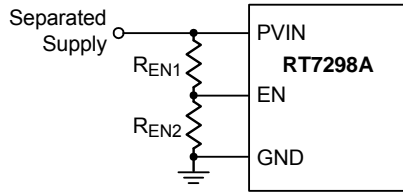
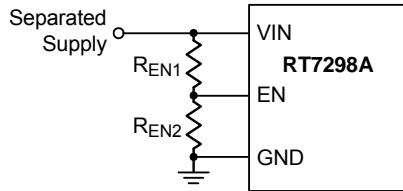
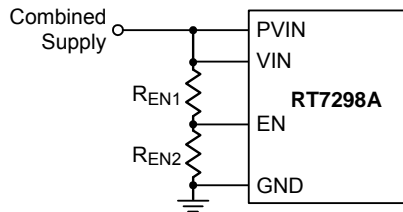

Figure 4. Resistor Divider for PVIN UVLO Setting
Figure 5. Resistor Divider for VIN UVLO Setting,
Figure 6. Resistor Divider for PVIN and VIN UVLO
The EN pin can also be applied to adjust its Under-Voltage Lockout (UVLO) threshold with two external resistors divider from the both input VIN and PVIN pins used together or separately, and the application structures can refer to Figure 4, Figure 5, and Figure 6.
Under above application structures, the adjustable UVLO function of EN pin allows to achieve a secondary UVLO on PVIN pin, a higher UVLO on VIN pin or even a common UVLO on both VIN and PVIN pins. For example, if the EN pin is configured as Figure 5 and the output voltage is set to a higher value 10V. The device may shut down after soft-start sequence is over, and the reason for the result is that the  $V_{OUT}$  is still lower than its set target during the  $V_{IN}$  rising period even though  $V_{IN}$  has already risen to its internal UVLO threshold 4V. To prevent this situation, an adjustable UVLO threshold from EN pin is useful to avoid such high output transfer condition. The exact UVLO thresholds can be calculated by Equation (3). The setting  $V_{OUT}$  is 10V and  $V_{IN}$  is from 0V to 18V. When  $V_{IN}$  is higher than 12V, the device is triggered to enable the converter. Assume  $R_{EN1} = 56k\Omega$ . Then,